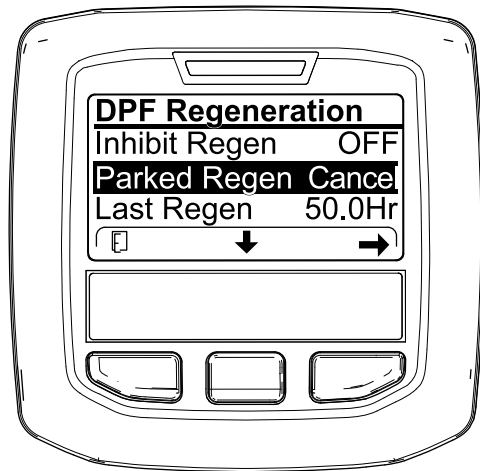
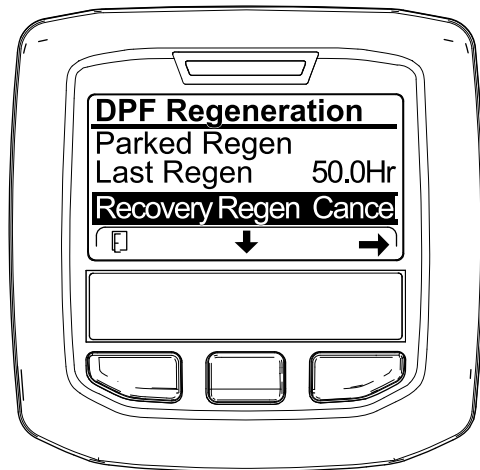

Figure 63
Figure 64
1. Access the DPF Regeneration menu (Figure 63).
2. Press the center button to scroll down to the PARKED REGEN CANCEL (Figure 63) or the RECOVERY REGEN CANCEL option (Figure 64).
3. Press the right button to select the Regen Cancel entry (Figure 63 or Figure 64).